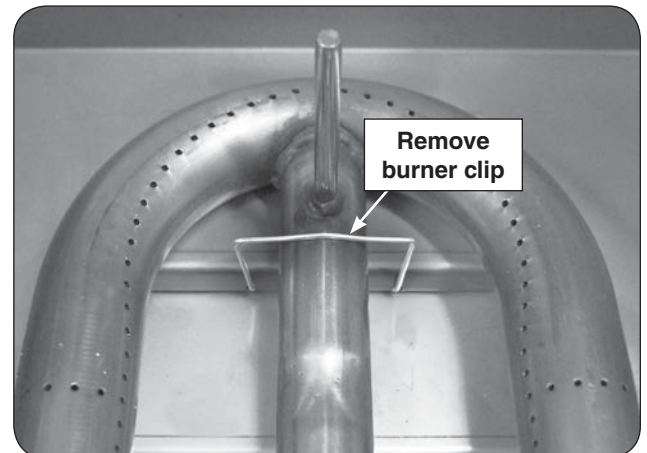

Fig. 35-2 Main burner removal
2. Locate the burner clip (located over the rear center tube of the burner) and slightly pinch and remove the clip from the burner support. See Fig. 35-2.